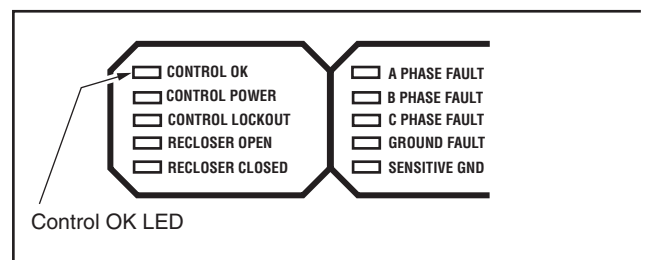

Figure 41. Control OK LED.
4. Verify the Control OK LED is illuminated on the control operator panel (Figure 41). This indicates the presence of ac power.